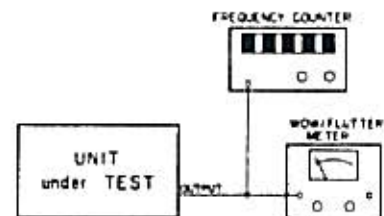

Fig. 1-3-11
1. Connect a Wow-and-Flutter to the deck as shown in Fig. 1-3-11. These meters will measure the ANSI peak value or the NAB rms value depending on the switch selection on the meter.